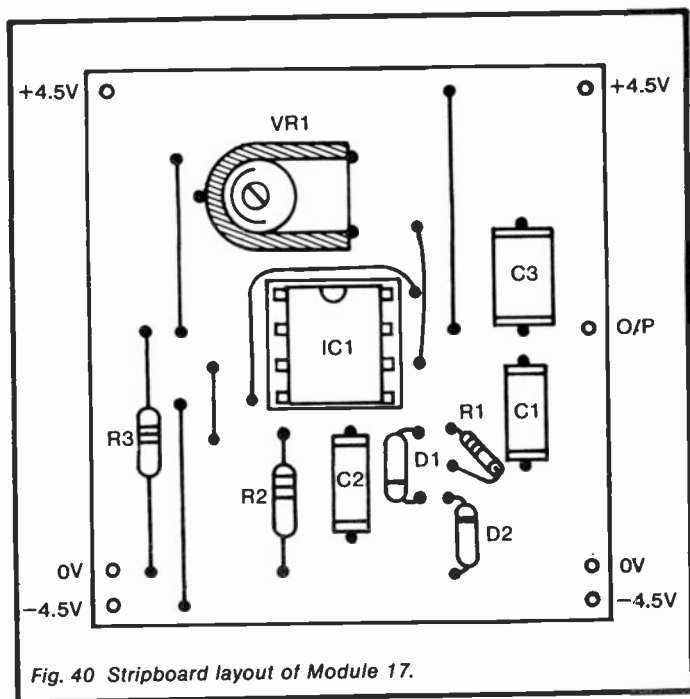

Fig. 40 Stripboard layout of Module 17.
*Stripboard layout:* see Figure 40. Cut strips beneath the board at G7 to J7, and H12. Solder blobs join C4 to D4, N8 to O8.